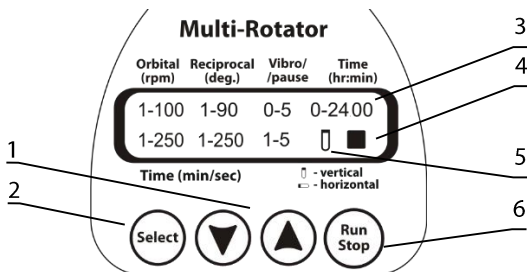

Fig. 1. Control panel
- 4.4. Press the **Run Stop** key (Fig.1/6) to start the program.
- 4.5. The platform motion will begin and the corresponding indication, ► (Fig.1/4), and the changing time values will be shown on the display.
- 4.6. If the operation time is not set and the timer indicator (Fig.1/3) shows 0:00, pressing the **Run Stop** key will cause continuous operation of the rotator until the **Run Stop** key is pressed again.
- 5.1. The program cycle consists of several parameters that follow each other and their durations. When the last parameter is finished, the cycle starts again. Press the **Select** key (Fig. 1/2) to choose the parameter to change. The active parameter is flashing.
- 5.2. Use the **▼** and **▲** keys (Fig. 1/1) to set the necessary value. Pressing the key down for longer time will increase the increment.
When the tube icon (Fig. 1/5) is in vertical position, reciprocal rotation starts from tubes in vertical position (platform in horizontal position).